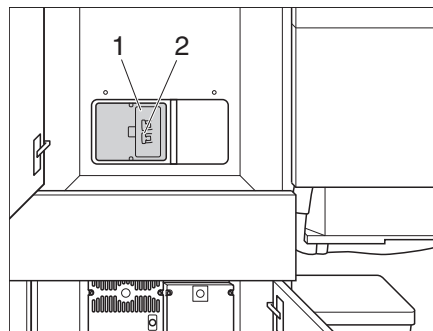

Fig. 43 230 V automatic circuit breaker
The 230 Volt power supply system (external connection) is equipped with an automatic circuit breaker (Fig. 43). This serves in particular as wiring protection. The fuse box is located in the built-in cabinet behind a flap. The automatic circuit breaker is triggered at a short-circuit and at an overload in the supply network.
- Open the cover flap (Fig. 43,1).
The 230 V connection is protected by a two-pole automatic circuit breaker (Fig. 43,2).
- ▷ The residual current circuit breaker (Fig. 43,2) for 230 volts should be tripped once annually so that the mechanism does not "stick" and the tripping time is not extended.